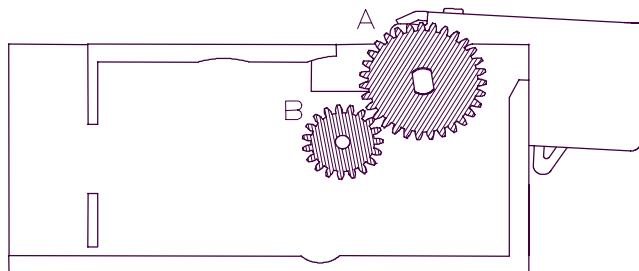

Figure 8-3 Loading Paper (3)
- When the platen is closed, the gear A and the gear B come together (See **Figure 8-3**) and the platen may stop. In this case, pull up the platen by the release lever, and then close the platen again.